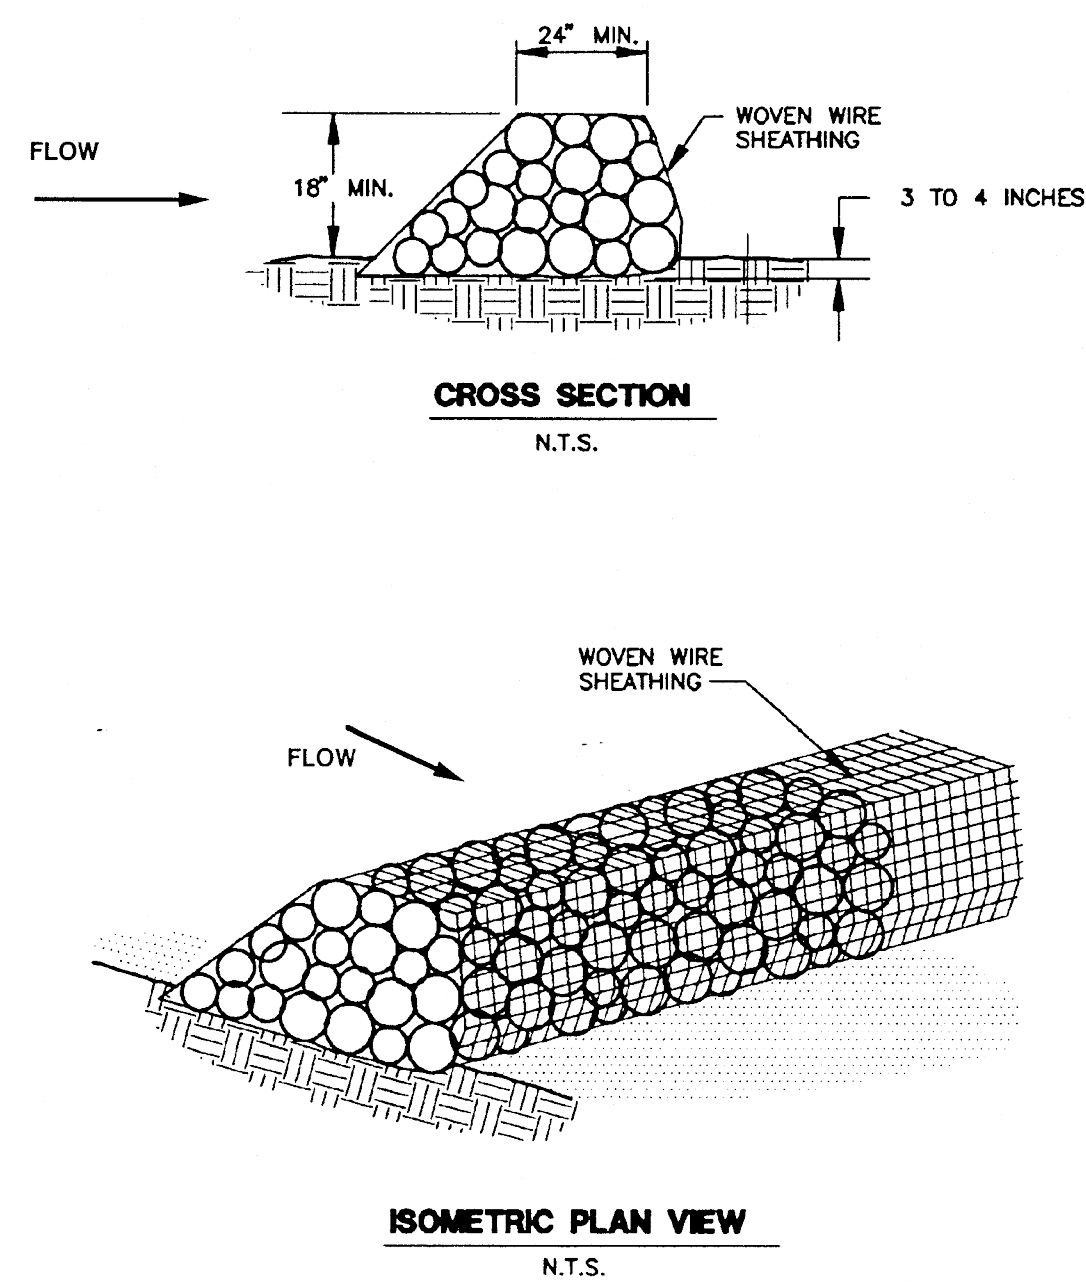

Figure 1-28 Schematic Diagram of a Rock Berm (NCTCOG, 1993)
- Place the rock along the sheathing as shown in the diagram (Figure 1-28), to a height not less than 18".